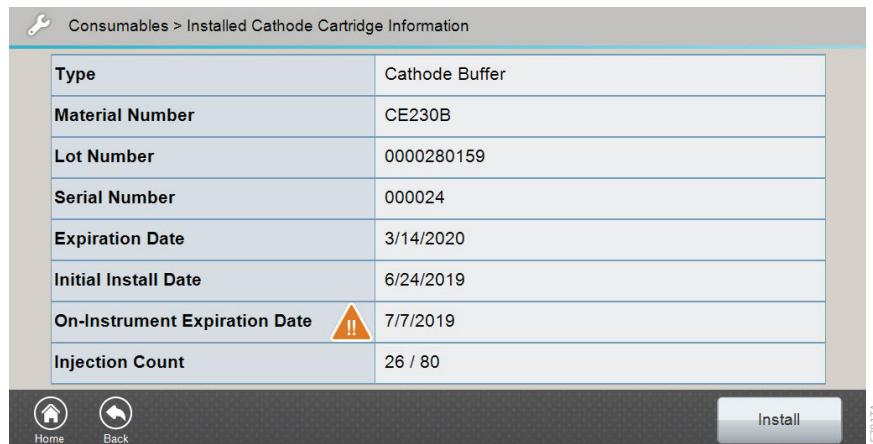

Figure 21. 'Installed Cathode Cartridge Information' screen.
4. Select **Cathode Buffer** on the 'Consumables' screen (Figure 11). This will open the 'Installed Cathode Cartridge Information' screen (Figure 21).